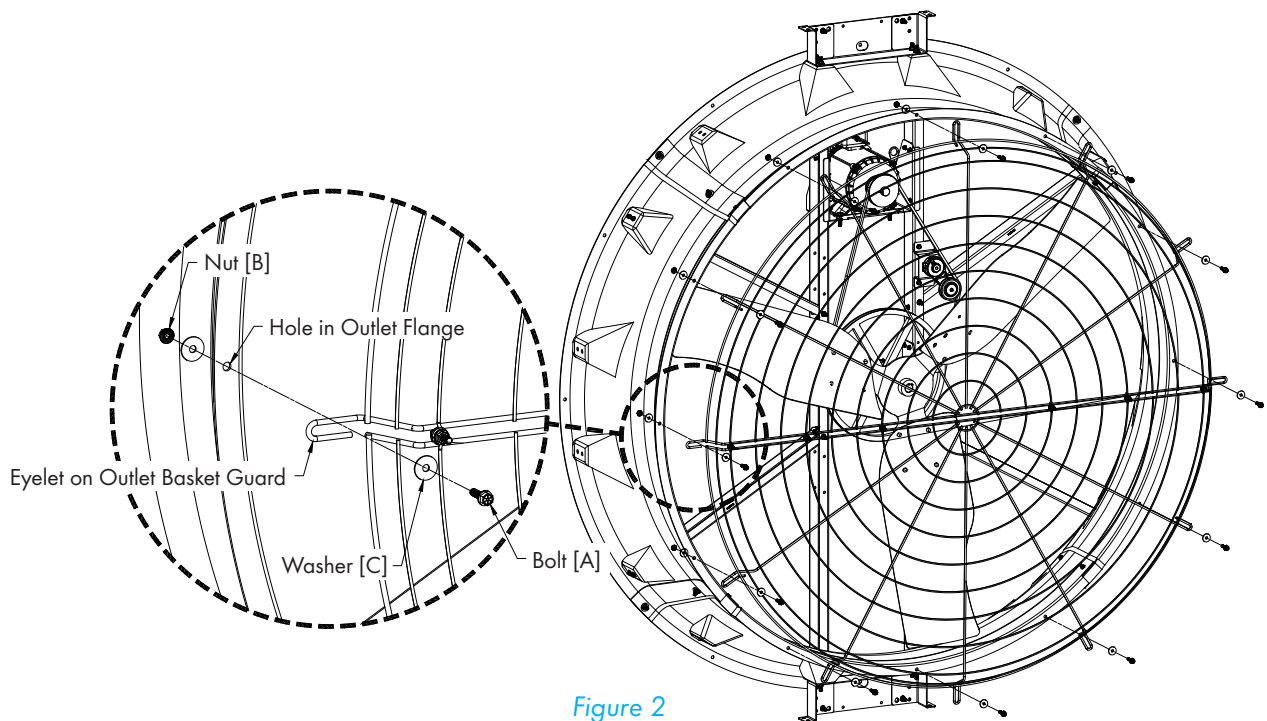

Figure 2
Attach the Outlet Basket Guard to the outlet flange of the CX74 fan using (12) Bolts [A], Nuts [B] and (24) Washers [C]. The bolt head and washer should be on outlet side of the guard and go through the eyelet, then the CX74 outlet flange with the nut on the rear side of the outlet flange. *See Figure 2.*